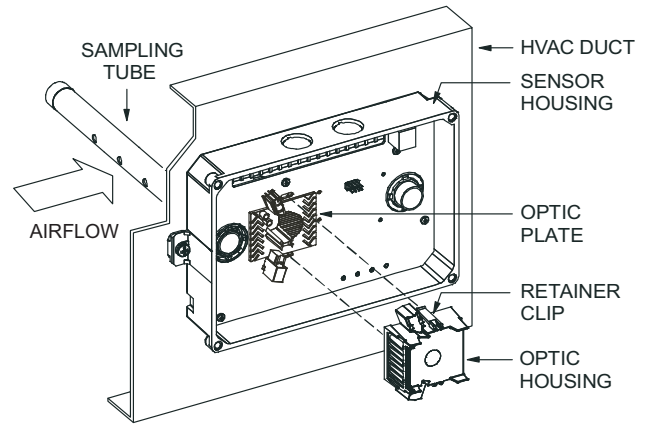

Fig. 47 — Sensor Cleaning Diagram
1. Disconnect power from the duct detector then remove the sensor's cover. See Fig. 47.